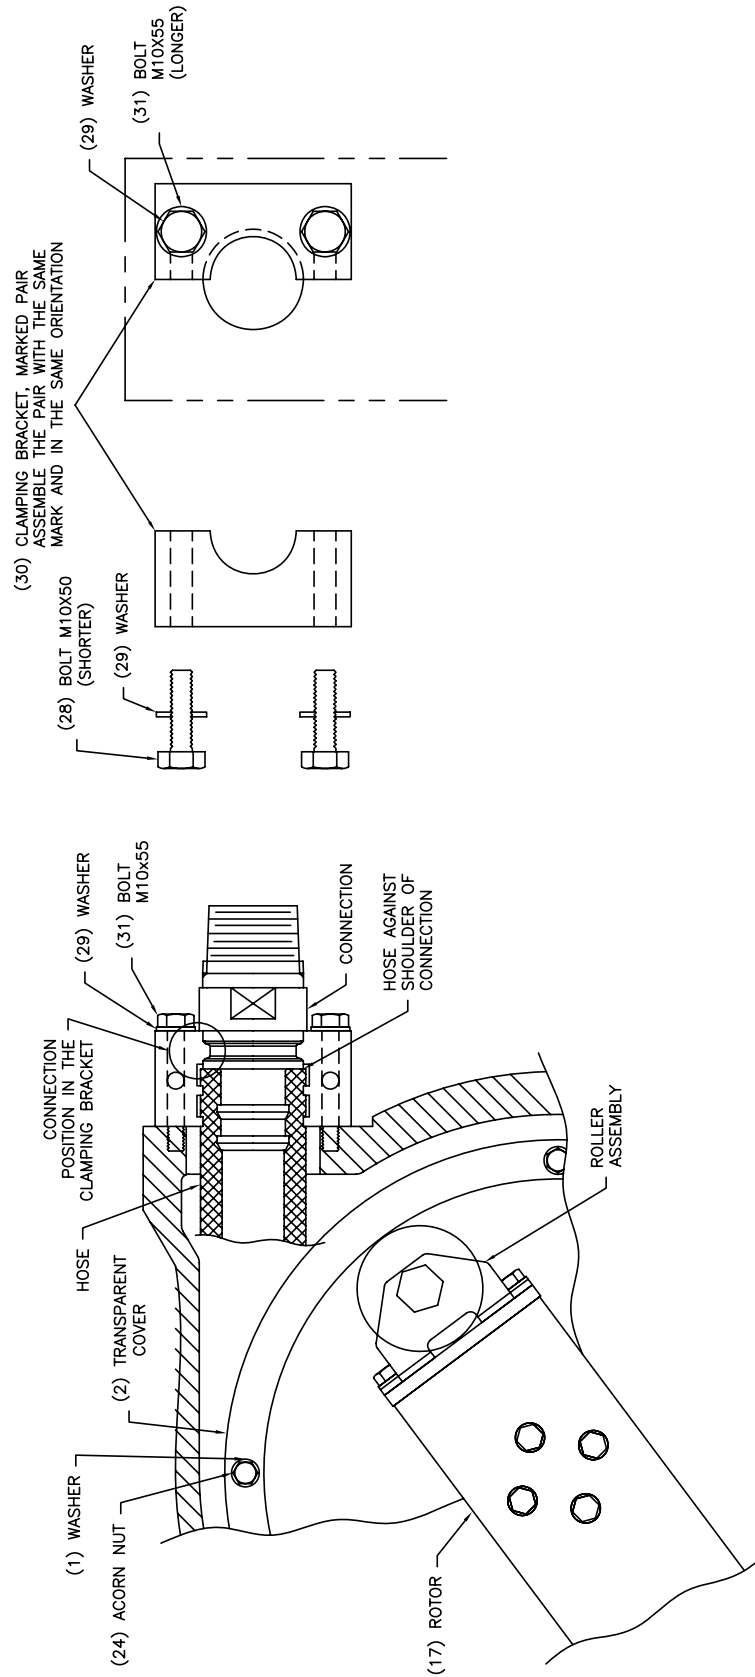

Figure 4.3 - Replacing the Tubular Element: Model S26
- e. On S5, position the half clamps into the clamping brackets. See Dwg. 490.200.000.110A (47).
- f. Secure the clamping bracket (32) with the two shorter bolts.
- g. Lubricate the other connection (31) and insert it into the top end of the tubular element (33), then repeat Steps d and e for the top clamping bracket.
- i. Install the transparent cover (1) temporarily and turn the power on.
- j. Turn the rotor so that the roller shaft without the roller assembly is at the 2 o'clock position. Turn the power off and remove the transparent cover (1).
- k. Install the roller assembly (18) and secure by the roller stop pin (30).
- l. Install the transparent cover (1). Do not over tighten the four acorn nuts (22).
4.2.3 Tubular Element Removal - Model S26 (See Figure 4.3)
4.2.4 Tubular Element Installation - Model S26 (See Figure 4.3)
- d. Position the connection properly into the first half of the clamping bracket (30), and install the second half. Ensure that the correct pair is installed and in the proper orientation.
- e. Secure the clamping bracket (30) with the two shorter bolts (28).
- f. Lubricate the other connection (31) and insert it into the top end of the tubular element (33), then repeat Steps d and e for the top clamping bracket.
- g. Tighten all of the M10 bolts, (28) and (31). Torque to 31 ft-lbs.
- h. Install the transparent cover (2) temporarily and turn the power on.
- i. Turn the rotor so that the end without the roller is at the 2 o'clock position. Turn the power off. Remove the transparent cover (2).